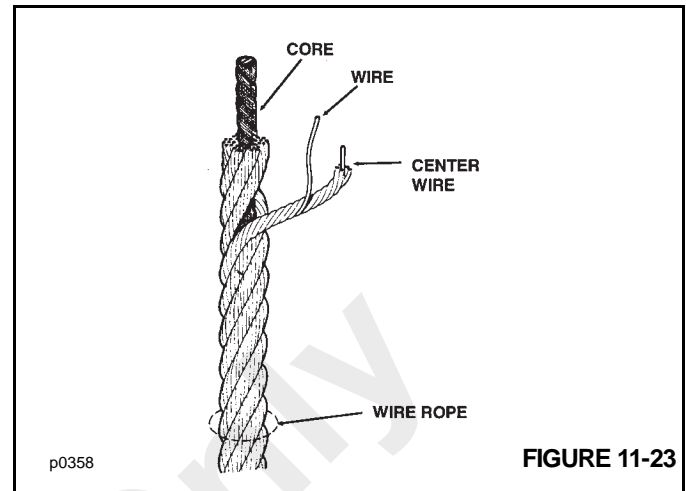

FIGURE 11-23
Every wire rope has three basic components (Figure 11-23): (1) The wires which form the strands and collectively provide rope strength; (2) the strands, which are laid helical around the core, and (3) the core, which forms a foundation for the strands. The core used in the crane wire rope is an Independent Wire Rope Core (IWRC), which is actually a smaller rope, or a strand similar to the outer strands of the rope. The IWRC core adds about 7.5% to the nominal strength of the wire rope.